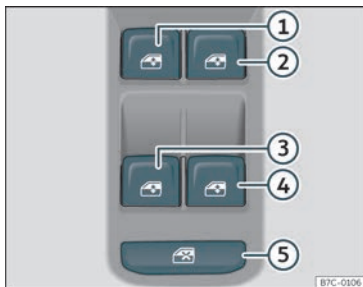

Fig. 86 Detail of the driver's door: window controls.
The safety control >>> **Fig. 86** ⑤ on the driver door can be used to disable the electric window buttons on the rear doors.